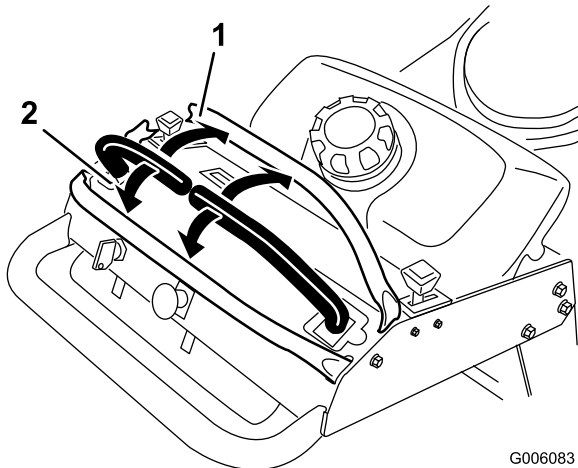

Figure 12
3. To go forward, slowly push the motion-control levers forward (Figure 12).
To go straight, apply equal pressure to both motion-control levers (Figure 12).
To turn, move the motion-control lever toward neutral in the direction you want to turn (Figure 12).
2. To go backward, slowly pull the motion-control levers rearward (Figure 12).
To turn, release pressure on the motion-control lever toward the direction you want to turn (Figure 12).